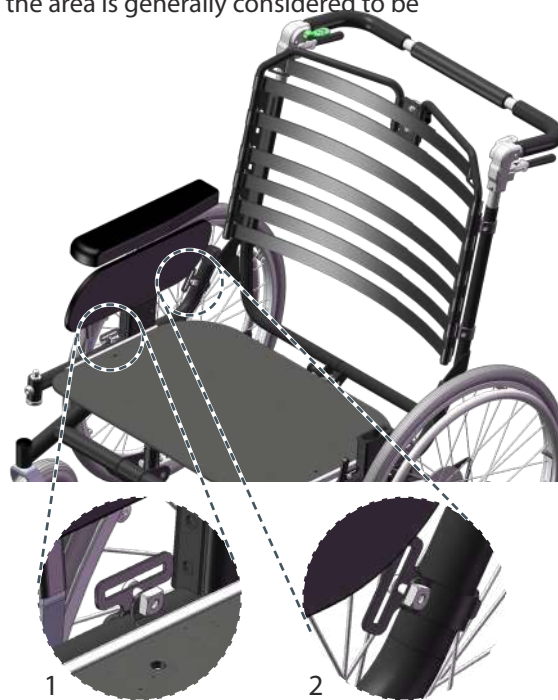

Figure 33. Belt mounts
To position the user in the wheelchair a belt can be used. HD Force can be equipped with belt mounts at the thighs (1 in Figure 33) and at the hips (2). Always follow instructions in the manual for the belt in use.